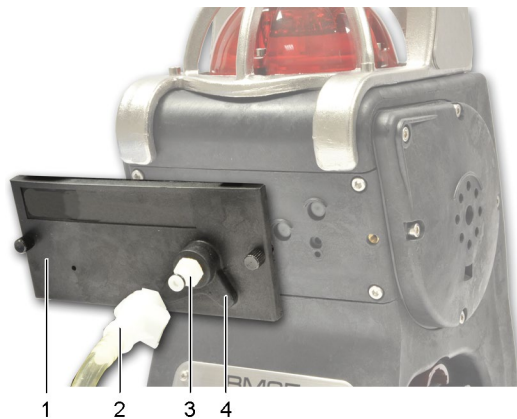

Figure 15: positioning the sensors cover (BM 25A/AW equipped with an electric pump)
- The internal pump is powered by the gas monitor's battery and starts automatically when the sensors cover is applied (Figure 15: positioning the sensors cover (BM 25A/AW equipped with an electric pump)ref. 1); this cover can be identified by its hump (ref. 4).
- Connect the sample line (ref. 2) to the gas inlet (ref. 3).